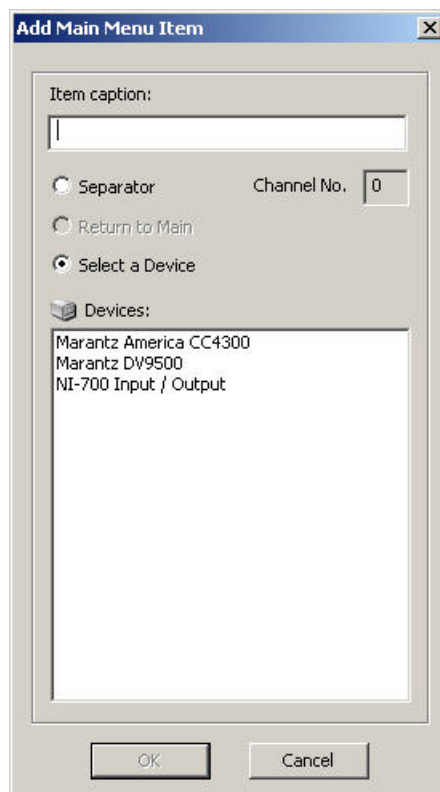

FIG. 216 Add Main Menu Item dialog
3. Click the **Add** button to open the *Add Main Menu Item* dialog (FIG. 216).